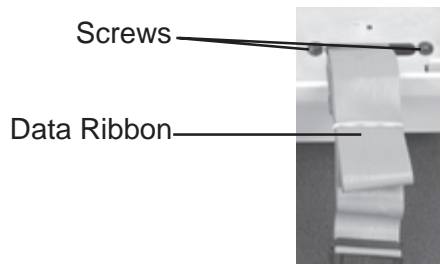

Fig. 1
3. Remove the two short screws, located on either side of the data ribbon, from the bottom of the scale (see fig. 1).